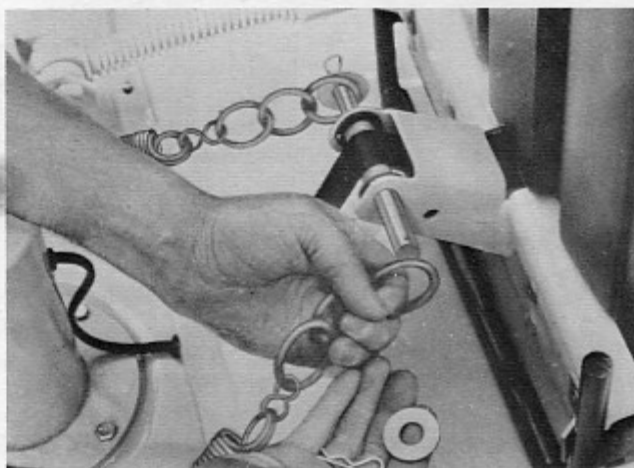

Figure 5
4. Attach mower "helper" springs to either side of the front lift-guide axle using similar links on each chain extension. Secure with washers and hair pin cotters (See Figure 5). For normal conditions, the upper or center links should be used. If side hills are to be mowed, best results may be obtained using the lower links. This applies more of the mower weight to the front tractor wheels and permits better steering control.